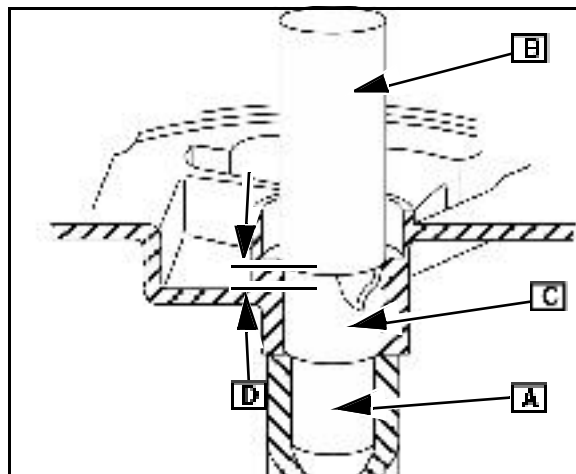

Fig. 31
2. Use cylinder support (#19227) (A) and bushing driver (#19226) (B) to press the new bearing ([C] Fig. 31) to 7/64" (2.78 mm) (D) from seal surface on magneto side.